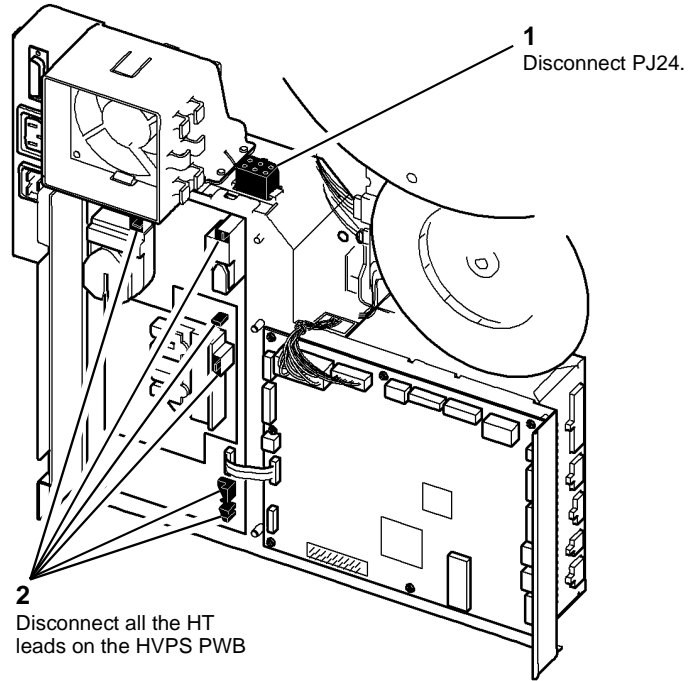

Figure 5 HVPS PWB
8. **Figure 5.** Disconnect PJ24 and all of the HT leads on the HVPS PWB.